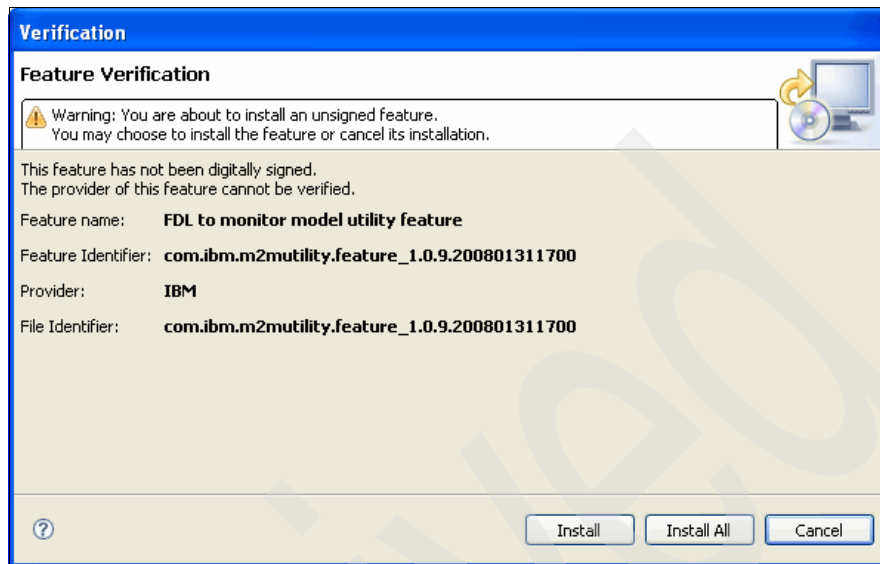

Figure 8-42 Verification window
11. In the Verification window (Figure 8-42), click **Install**.